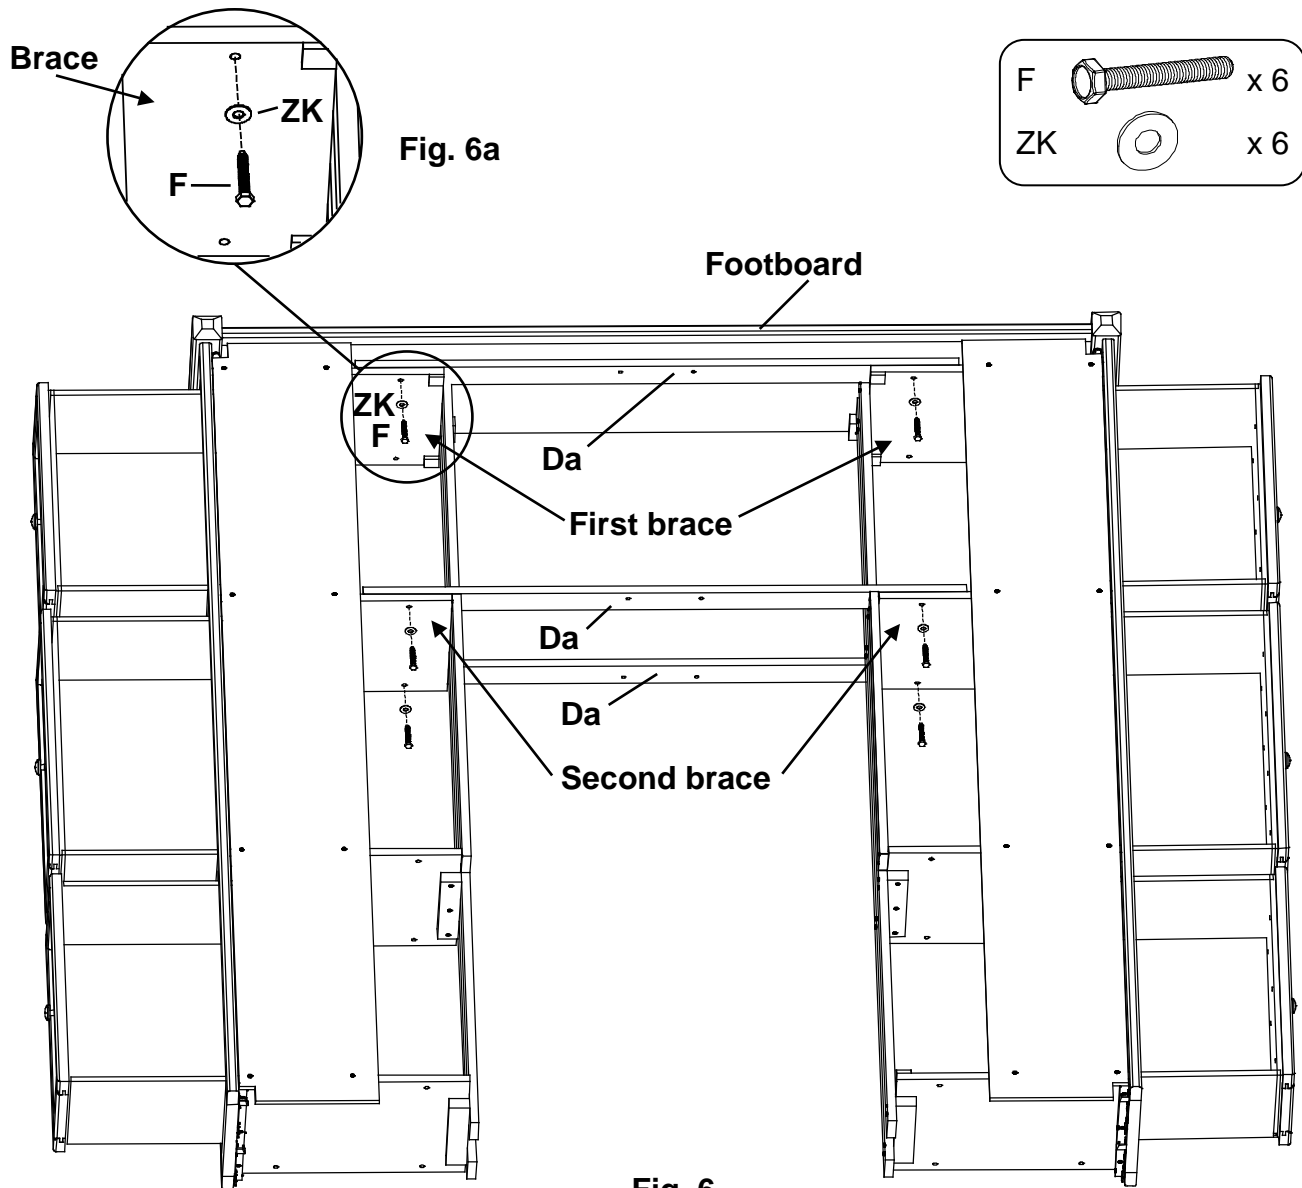

Fig. 6
Place a Trestle with T-Nuts (Da) on the outside surface of the second lower brace so that the T-Nuts (ZU) sit near the bottom. Line up the bottom edges of the trestle and braces so they are nearly flush. Insert two 1/4" x 1-3/4" Hex Bolts (F) and Washers (ZK) and tighten. See Figures 6 and 6a.